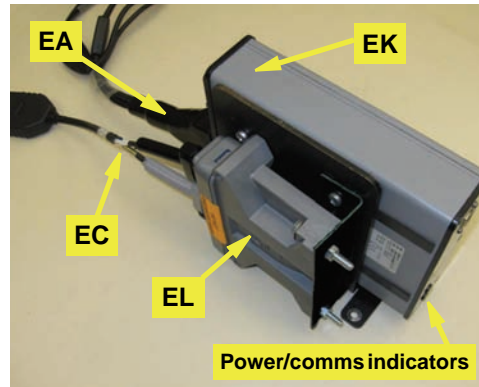

Figure 2a: Installed ECU and steering controller cables
- a. If not already attached, attach main cable **EA** to **EK** using an Allen wrench to secure the cable. The **EA** connector only connects with the **EK** socket that is in line with the power and communications indicators at the opposite end of the ECU - the lower socket in this install (Figure 2a).
Attach steering controller cable **EC**'s two 12-pin plugs to the corresponding gray and black connectors on the steering controller **EL** (Figure 2a).